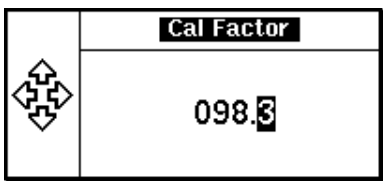

Figure 6-4 Calibration Factor pop-up window
- 10** If required, change this setting by pressing the channel **Cal Fac %**. The calibration factor pop-up window is displayed as shown in Figure 6-4.